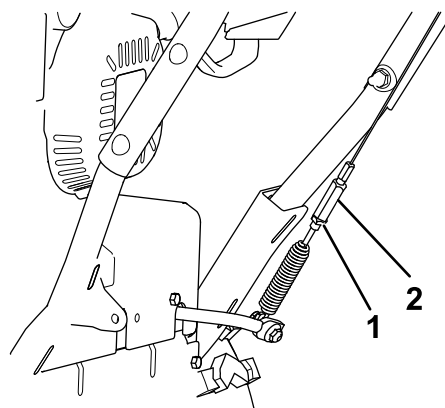

Figure 29
B. Loosen or tighten the turnbuckle that adjusts the tension on the cable (Figure 29).